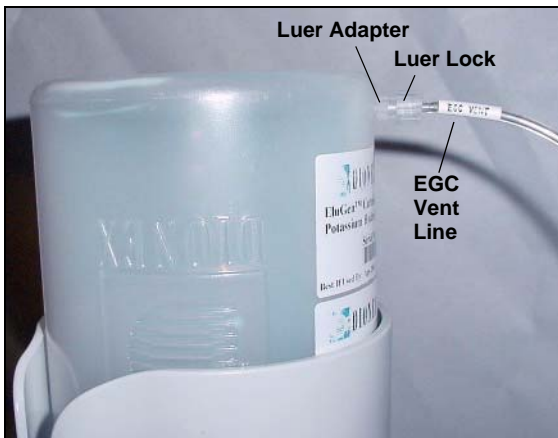

Figure 5-35. EluGen Cartridge Vent Line and Luer Fitting
4. Remove the EluGen cartridge **VENT** line (see Figure 5-35) from the EluGen cartridge by unscrewing the luer lock from the luer adapter.